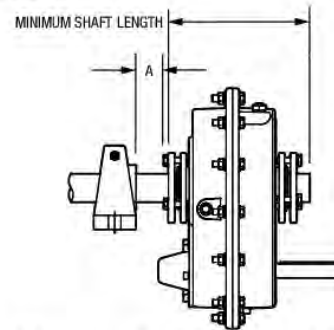

Figure 6 – Minimum Recommended Dimensions
1. One bushing assembly is required to mount the reducer on the driven shaft. An assembly consists of two tapered bushings, bushing screws and washers, two bushing backup plates and retaining rings, and necessary shaft key or keys. The driven shaft must extend through the full length of the reducer. If the driven shaft does not extend through the reducer do not use the standard tapered bushings; instead use the short shaft bushings as described in the Short Shaft Bushings section that follows. The minimum shaft length, as measured from the end of the shaft to the outer edge of the bushing flange (Figure 6), is given in Table 2.
- The long bushing is designed to be installed from the side of the reducer opposite the driven equipment as shown in Figure 6. The long bushing when properly installed is designed to capture the end of the customer shaft that does not extend through the reducer. Normally the reducer would be mounted such that the input shaft extends from the side of the reducer opposite the driven equipment however the reducer design allows installation of the reducer to be mounted in the opposite direction.